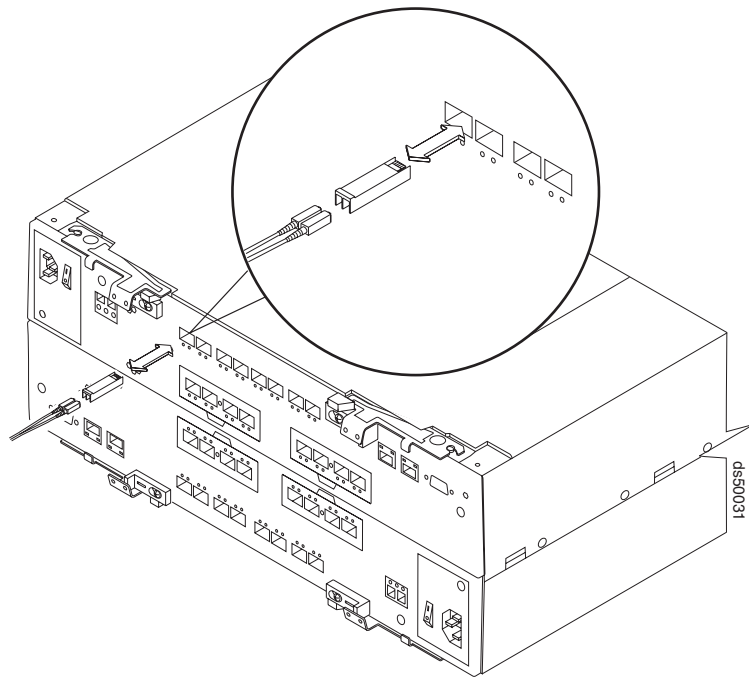

Figure 26. Installing an SFP module and LC-LC cable in a supported DS5000 storage subsystem
2. Connect an LC-LC fibre-optic cable into the SFP module, as shown in Figure 26.
Note: Figure 26 shows a DS5000 Storage Subsystem. The DS5000 Storage Subsystem is shown for illustrative purposes only.